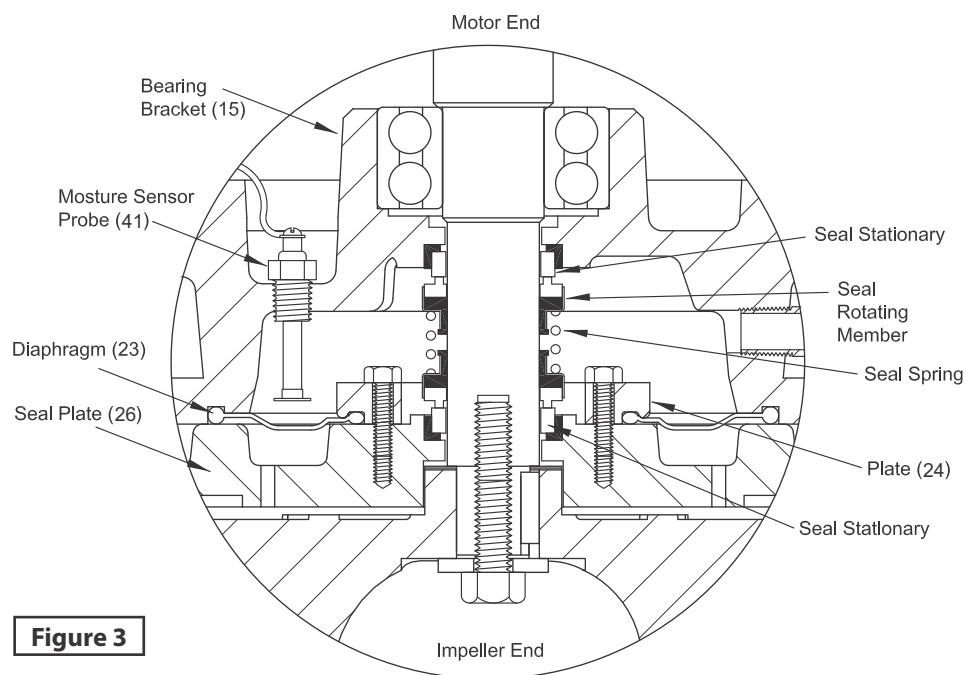

Figure 3
**Seal/Diaphragm** - (See Figure 3) Clean and oil seal cavities in bearing housing (15) and seal plate (26). Lightly oil (**Do not use grease**) outer surface of inboard and outboard stationary members of seal (19). Press inboard stationary member firmly into bearing housing (15) and outboard stationary into seal plate (24), using a seal pusher tool. Nothing but the seal pusher tool is to come in contact with seal face.